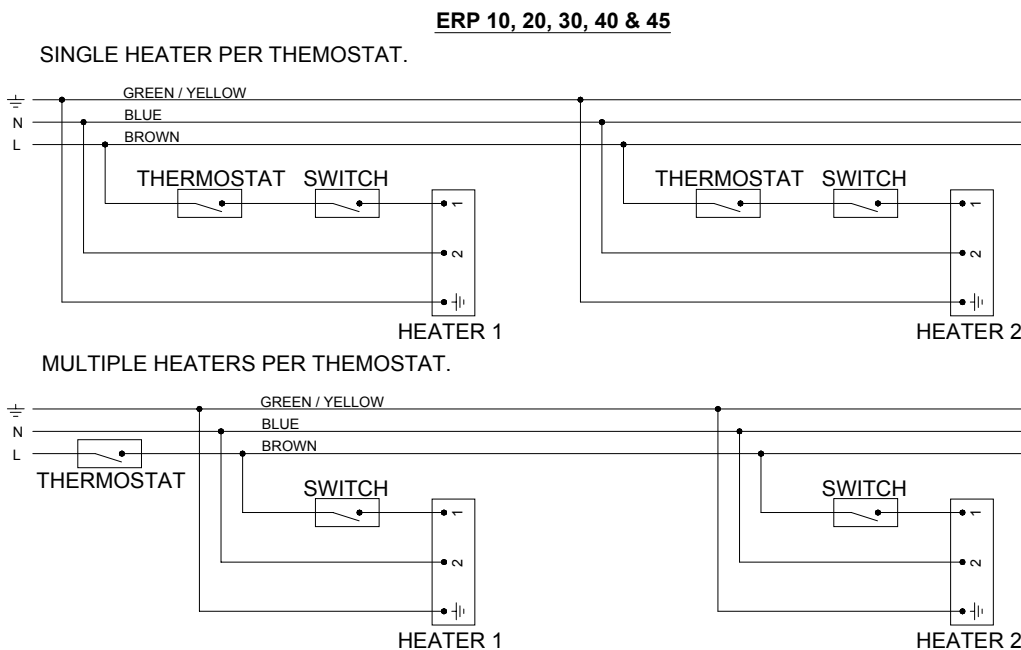

Fig. 3
3.3.2 Twin core and earth PVC covered flexible supply cable (0.5mm² - to National or Local standard specification) must be used, with connections made as shown in Fig. 3.